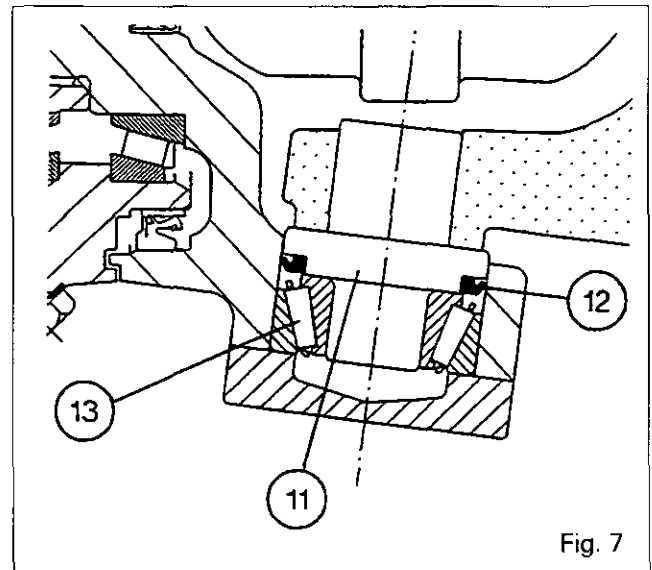

Fig. 7
60. If they were removed, fit the bush (9) and seal (8) fully home on the shoulder of the axle housing (52). Lubricate the seal (8). Refit the universal drive shaft. Insert a guide through the oil filling port to align the left-hand drive shaft with the differential.
61. If they were removed, fit the bush (17) and seal (16) fully home on the shoulder of the swivel housing (47).
62. Replace the seal (12). The lip on the seal must be positioned as shown in Fig. 7. Fit the cone (13) fully home on the swivel pin (11).
95. Replace the seal **(12)**. Fit the lip of the seal in the direction shown in Fig. 7. Fit the cone **(13)** fully home on the swivel pin **(11)**.